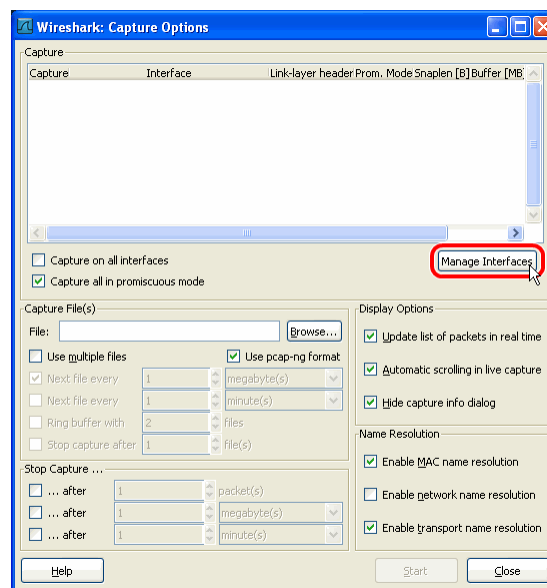

Figure 181: Wireshark Capture Options Dialog.
1. Open Wireshark and choose the menu **Capture → Options...** . This opens the **Capture Options** dialog as shown in Figure 181.